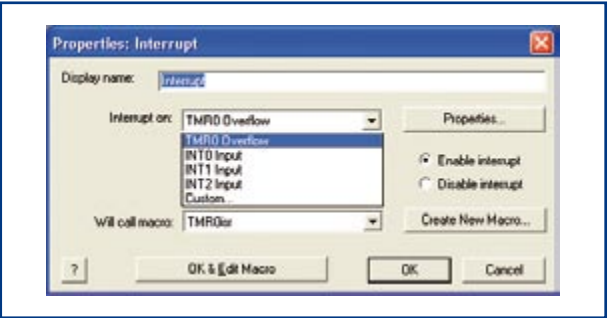
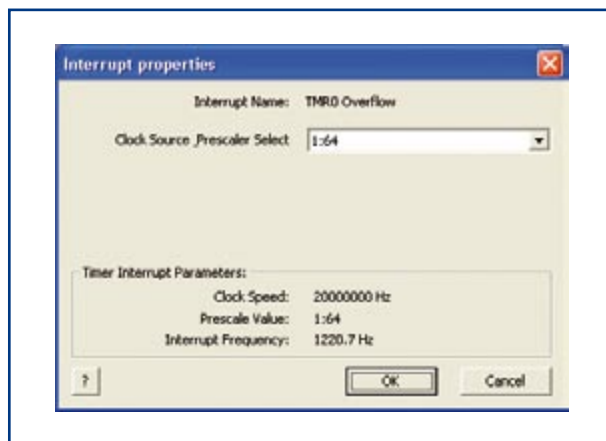
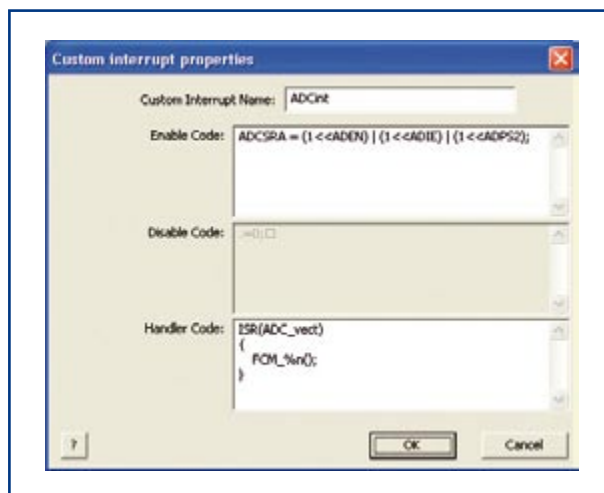

Figure 2.
Figure 3.
Figure 4.
**The first icon** configures the timer interrupt. Clicking on it results in the dialogue box shown in **Figure 2**. Here you can see that we have selected the TMR0 (TiMeR 0) overflow interrupt to be enabled and that when the timer 0 overflows the macro, or subroutine, in the flowchart TMR0Isr is called. Clicking on the Properties button reveals the screen in **Figure 3** where you can see that the parameters of the timer 0 overflow interrupt can be selected. The interrupt frequency here is 1200 Hz which means that the macro TMR0Isr is called 1200 times a second.
here is the maths on Figure 3:**
In this case the TMR0 interrupt has been configured to generate an interrupt at a frequency of 1220.7Hz (819.2µs), see Figure 3.
From the 'Interrupt on' drop box shown in Figure 2 you can see that other interrupts are available which are as follows:
**The second icon** in the flowchart configures a second interrupt in the Atmega chip: the A/D Converter Conversion Complete interrupt. Once this is on the flowchart if you click on the icon and select the 'Custom...' option from Figure 2 you will get a new dialogue box as shown in **Figure 4**. Here you need to enter appropriate C code which enables the interrupt by setting the status of the ADCSRA register (ADC Control and Status Register A), and then additional C code which ensures that the selected Flowcode macro is called. Using interrupts like this requires some knowledge of the inner workings of the microcontroller device itself, and a little C code.
Their data sheet for the NE555 contains a circuit that, for a clock generator with 50% duty-cycle, requires only three external components (see **Figure 2**).